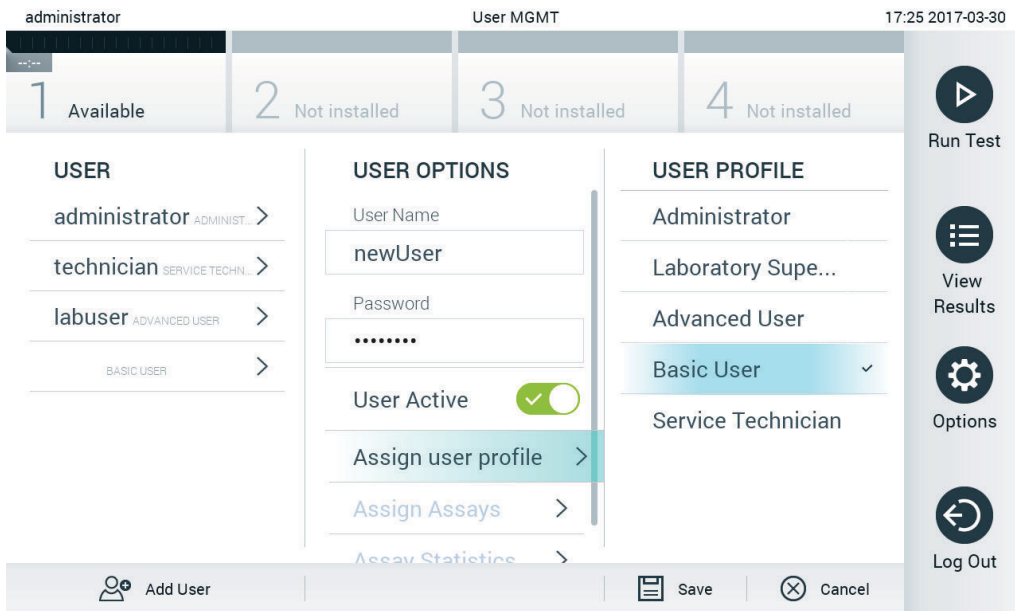

Figure 57. Assigning a user profile to a new user.
4. Press **Assign User Profile** and assign the appropriate user profile (from the list on the right of the content area) to the new user (Figure 57, next page).